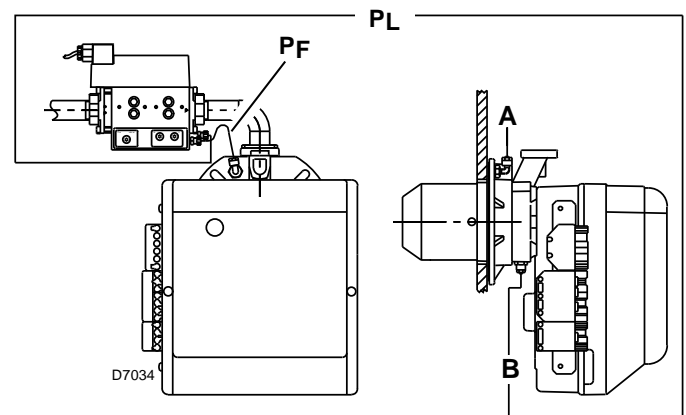

Fig. 15
- fix the G1/8 connector (supplied with the burner) at point A)(Fig. 15) (burner flange).